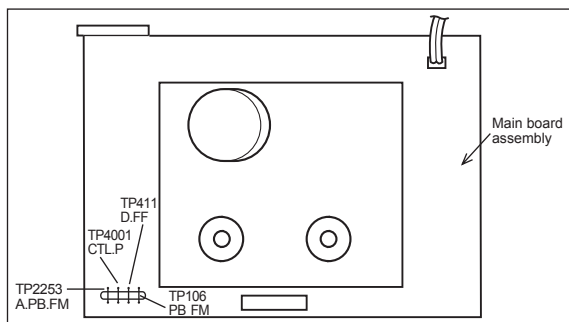

Fig.2-2a
- (1) Refer to the disassembly procedure and perform the disassembly of the major parts before removing the Mechanism assembly.
- (2) Remove the screws that fix the Mechanism assembly to the Chassis assembly. If any other screws are used to fix the boards, remove them also.
- (3) Remove the combined Mechanism and Main board assemblies.
- (4) If any other major parts are used, remove them also.
- (5) Connect the wires and connectors of the major parts that have been removed in steps (1) to (4). (Refer to Fig. 2-2a.)
- (6) Place the combined Mechanism, Main board and other board assemblies upside down.
- (7) Insert the power cord plug into the power outlet and then proceed with the diagnostics and servicing of the board assembly.